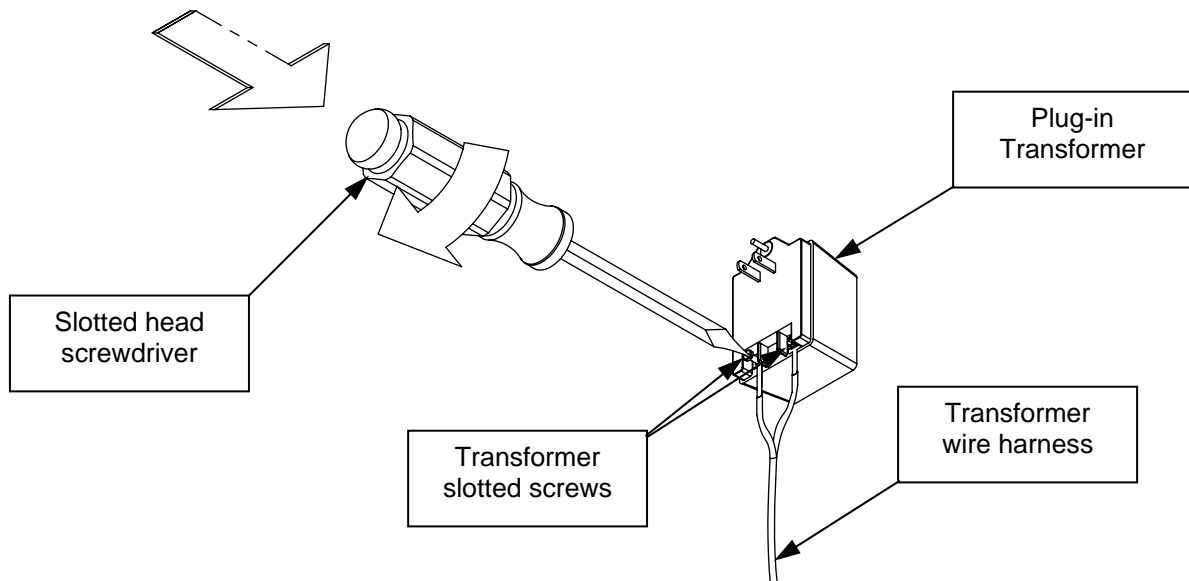

Figure 14
Step 14: Tighten both screws on the transformer down, as shown in Figure 14.